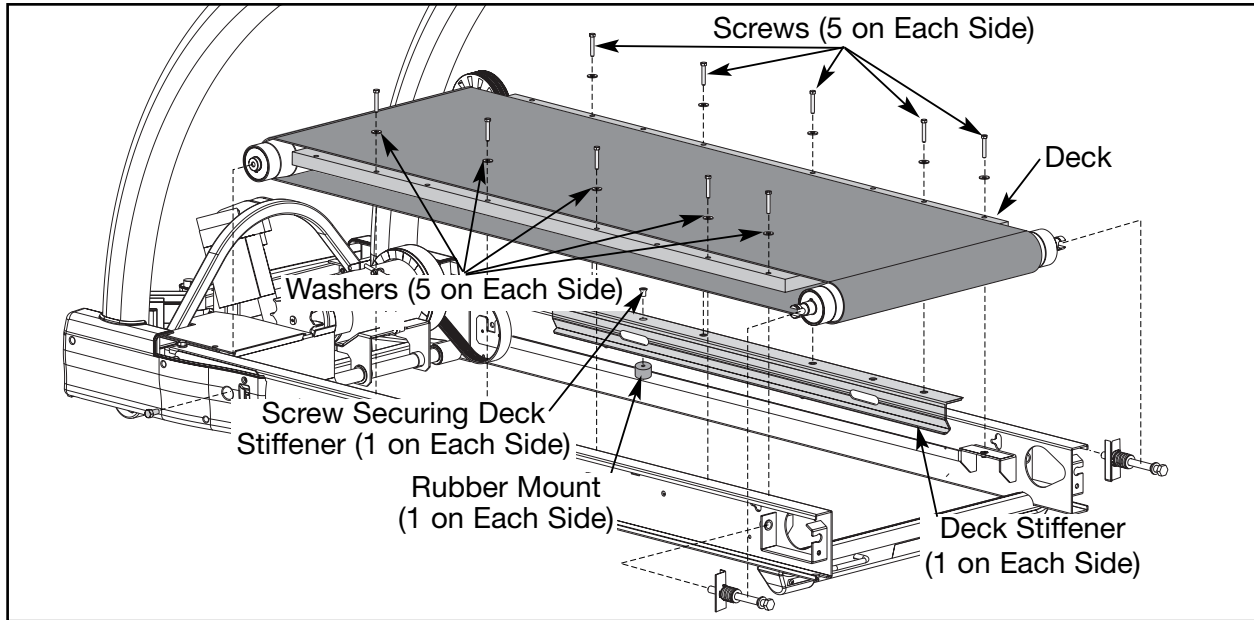

Figure 7
- A. Using a 7/16" open-end or socket wrench, remove the ten screws and ten washers that hold the deck in place. See Figure 7. **NOTE:** Leave the deck in place until step 9B.
- A. Using a Phillips head screwdriver, remove the screw securing each deck stiffener. See Figure 7.
- B. Using a 7/16" open end or socket wrench, attach the ten washers and screws that hold the deck to the treadmill frame. See Figure 7.